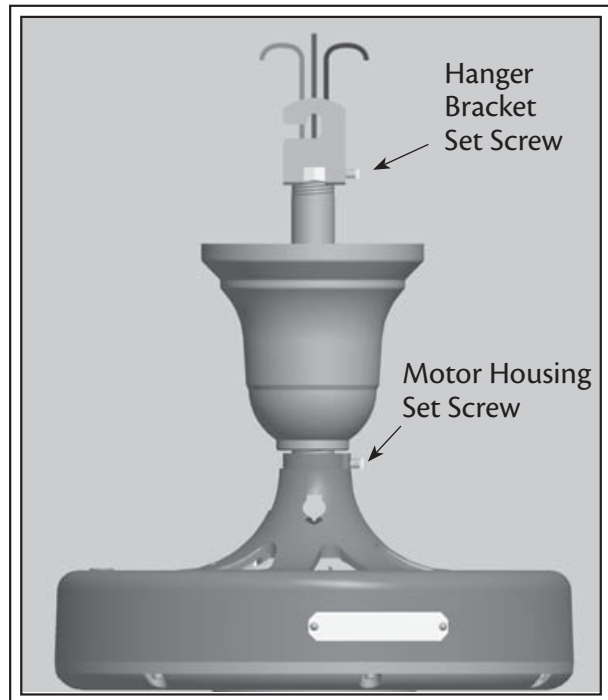

Fig. 7
8. Tighten the set screw in the motor housing and the hanger bracket assembly (see Fig 7).